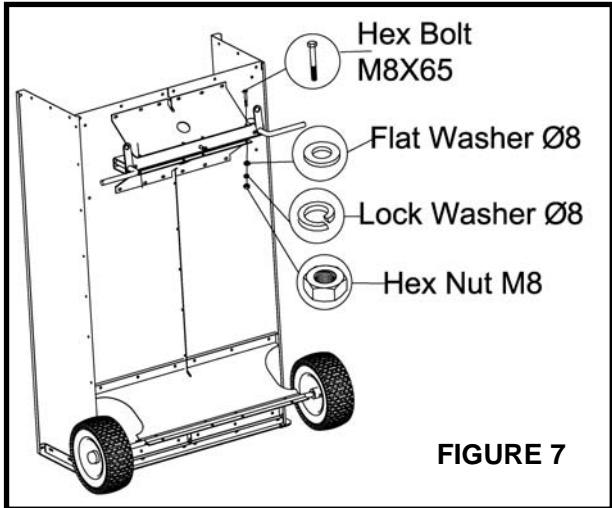

FIGURE 7
19. Place the front axle channels between the front axle supports. Assemble two M8X65 hex bolts through the holes in the ends of the supports and secure with Ø8 lock washer, Ø8 Flat Washer and M8 hex nuts. Don't tighten. See **Figure 7**.